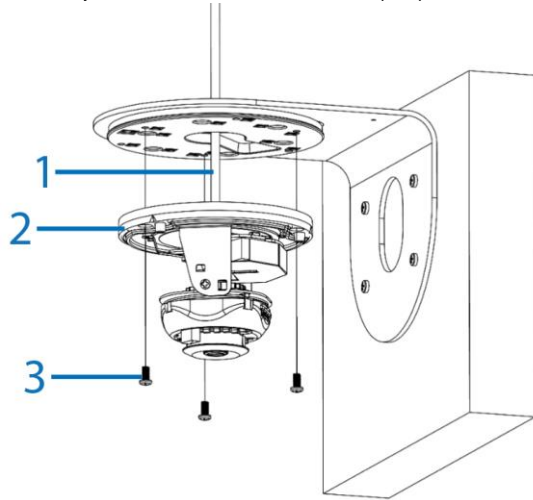

Figure 6
- C. Place the camera cable (1) (Figure 6) through the hole in the center of the adaptor plate.
- D. Hold the camera base (2) (Figure 6) up to the adaptor plate and align the three holes on the camera base with the three 'F' holes on the adaptor plate.
- E. Insert the three M4 x 0.7P x 10L screws (3) (Figure 6) into the three holes and securely attach the camera base to the adaptor plate.